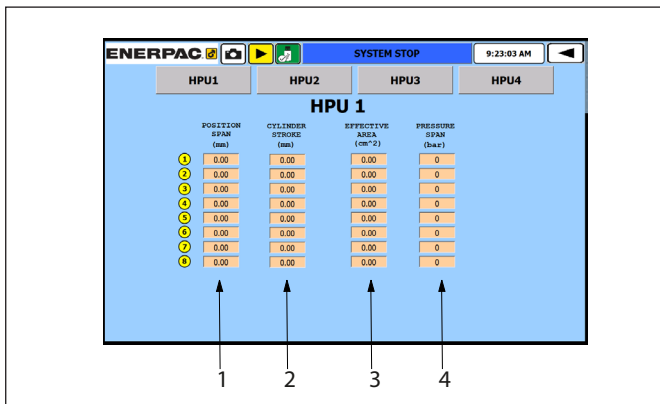

Figure 20: SFP Spans Parameters
2. Hydraulic power unit: The user can select the HPU to apply the parameters (see Figure 20).
The user can access to the Spans Parameters screen pressing on the HPU icon. In the boxes the user can type the following data (refer to Figure 20):